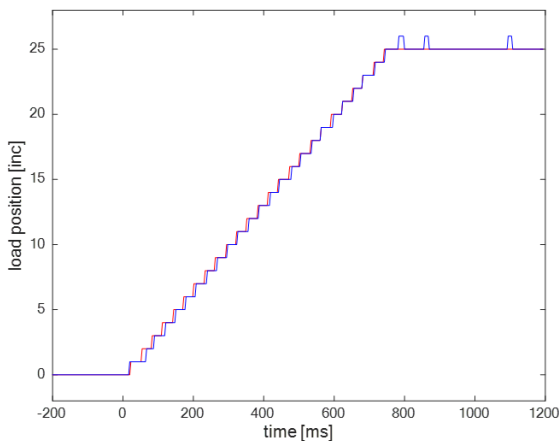
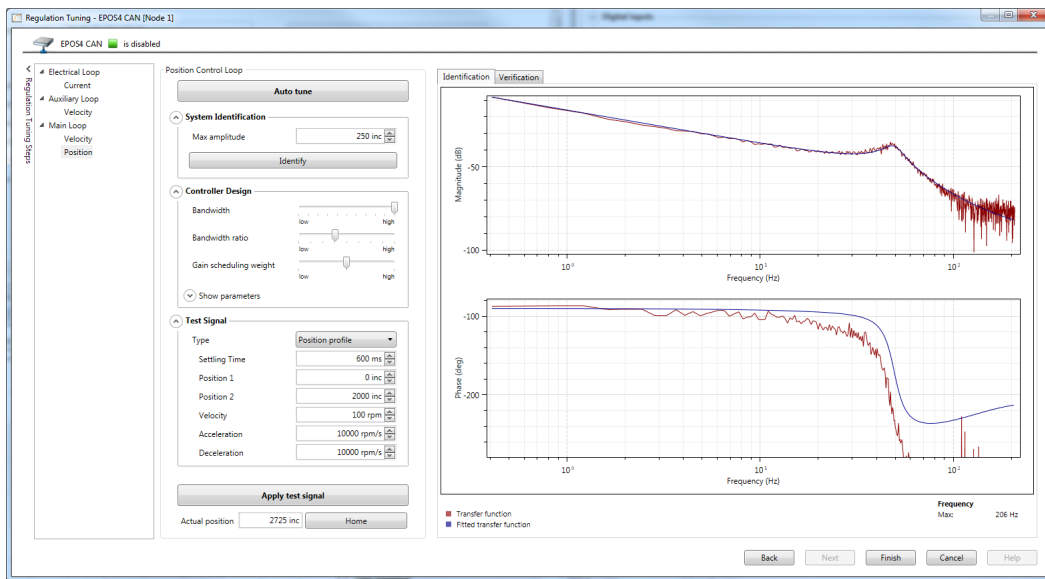
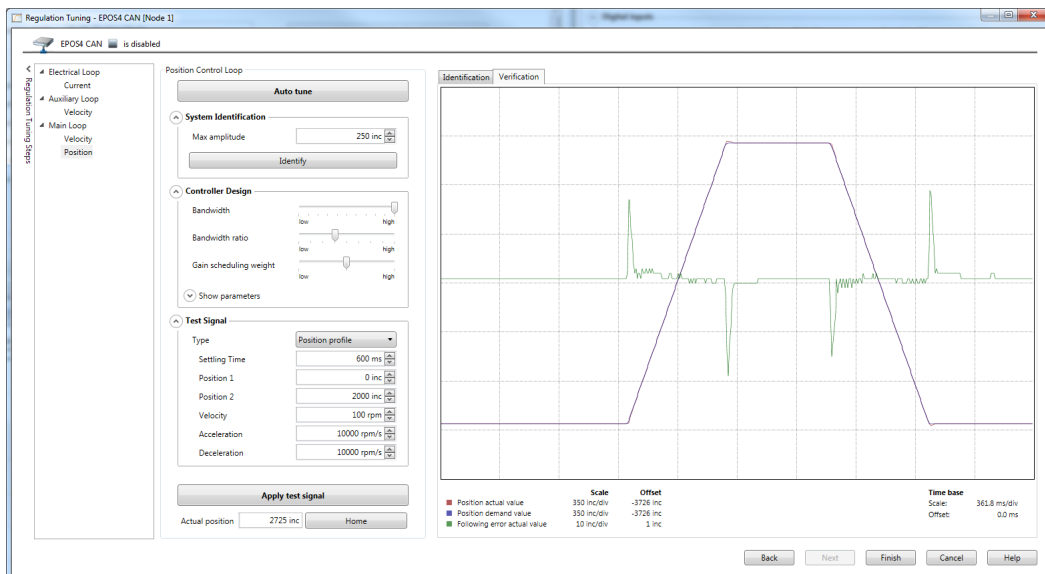

Figure 10-106 Dual loop control | Use case 1: Load position control with PID position controller
Figure 10-108 Dual loop control | Use case 1: Main loop tuning dialog box with the «Identification» tab active
Figure 10-109 Dual loop control | Use case 1: Main loop tuning dialog box with the «Verification» tab active
Using the path planner and executing the trajectory with the maximal velocity of 1 rpm, an acceleration of $1000 \frac{rpm}{s}$, and a position change of 25 increments, the result obtained is as in →Figure 10-106.
- The «Verification» tab in the dialog box contains the test signal of the resulting controller. The «Bandwidth» of the controller can be adjusted using a slider. Higher bandwidth means faster and more aggressive control behavior. However, it should be noted that for each system there are limitations on the achievable closed loop bandwidth and that the auto tuning algorithm will consider these limitations when calculating the main loop parameters. The other two sliders may be used to set the «Bandwidth ratio» and the «Gain scheduling weight». These parameters influence the elimination of the backlash effects and should be adjusted such that no backlash effects (as shown in →Figure 10-106) are visible in the verification signal. Increasing the «Gain scheduling weight» (moving the slider to the right) and decreasing the «Bandwidth ratio» (moving the slider to the left) has a positive effect on eliminating the negative effects caused by the backlash. The main loop tuning dialog box is shown in →Figure 10-108 and →Figure 10-109.